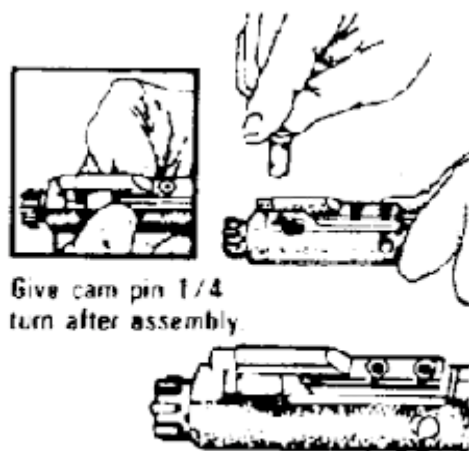

Figure E-28. Replacing the bolt cam pin.
e. Place the bolt cam pin by putting it in the bolt carrier turning it one-quarter turn (figure E-28).